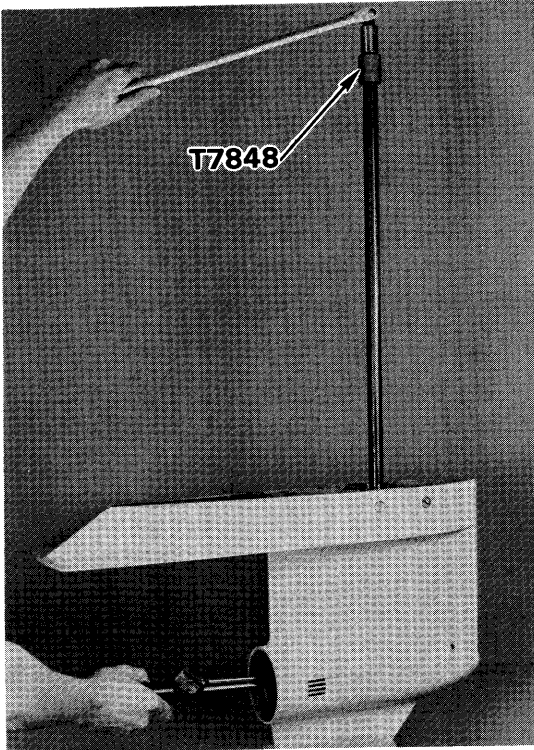

Figure 23—Torquing Pinion Nut
- D. Thread a new pinion nut on end of driveshaft. Place foot pound torque wrench with proper socket over pinion nut, and spline adapter over end of driveshaft. Torque nut to 85 ft. lbs. See figure 23.